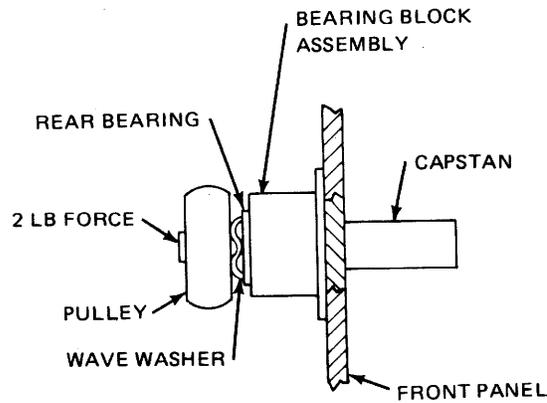

Figure 6-58. Capstan Bearing Preload Adjustment.
- f. Apply two-pound force to rear of capstan shaft to preload wave washer; hand-tighten capstan setscrew securely (see figure 6-58).